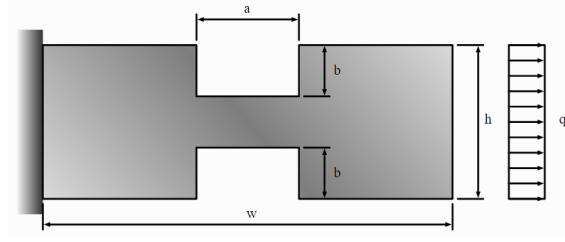

Figure 1: Represented is a illustration of the geometry, boundary condition and loads of the sample that the FEM software is built on.
The solver implemented is to be able to solve a plane stress finite element problem. The geometry that is to be investigated is depicted in figure 1 and can be related to a specimen exposed to uniaxial tensile stress. The parameters a , b , h and w can be altered by the end-user to solve the problem for different geometries. The line load q as well as the material properties modulus of elasticity E and poisson's ratio ν may also be altered to modify the model.
- The method **executeParamStudy** performs a parameter study by altering either the a parameter or b parameter defined in figure 1.